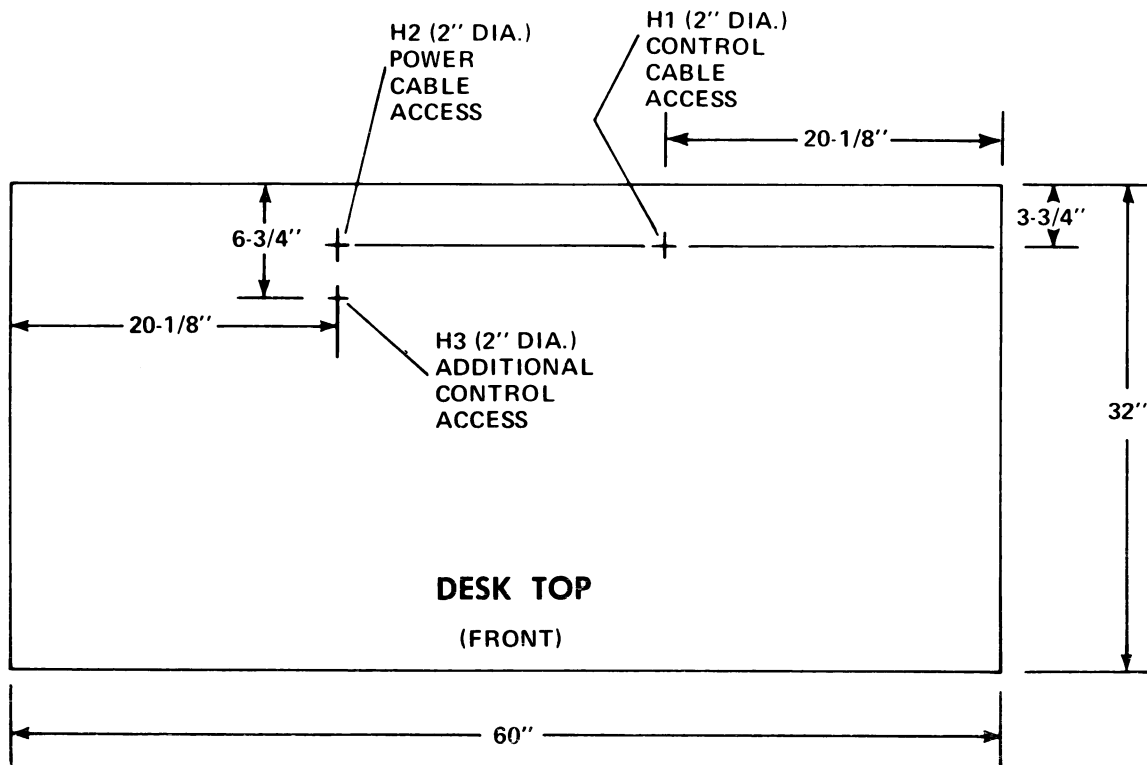

Figure 1
1. Drill three 2-inch diameter cable access holes (H1, H2 and H3) in the desk top as shown in Figure 1.